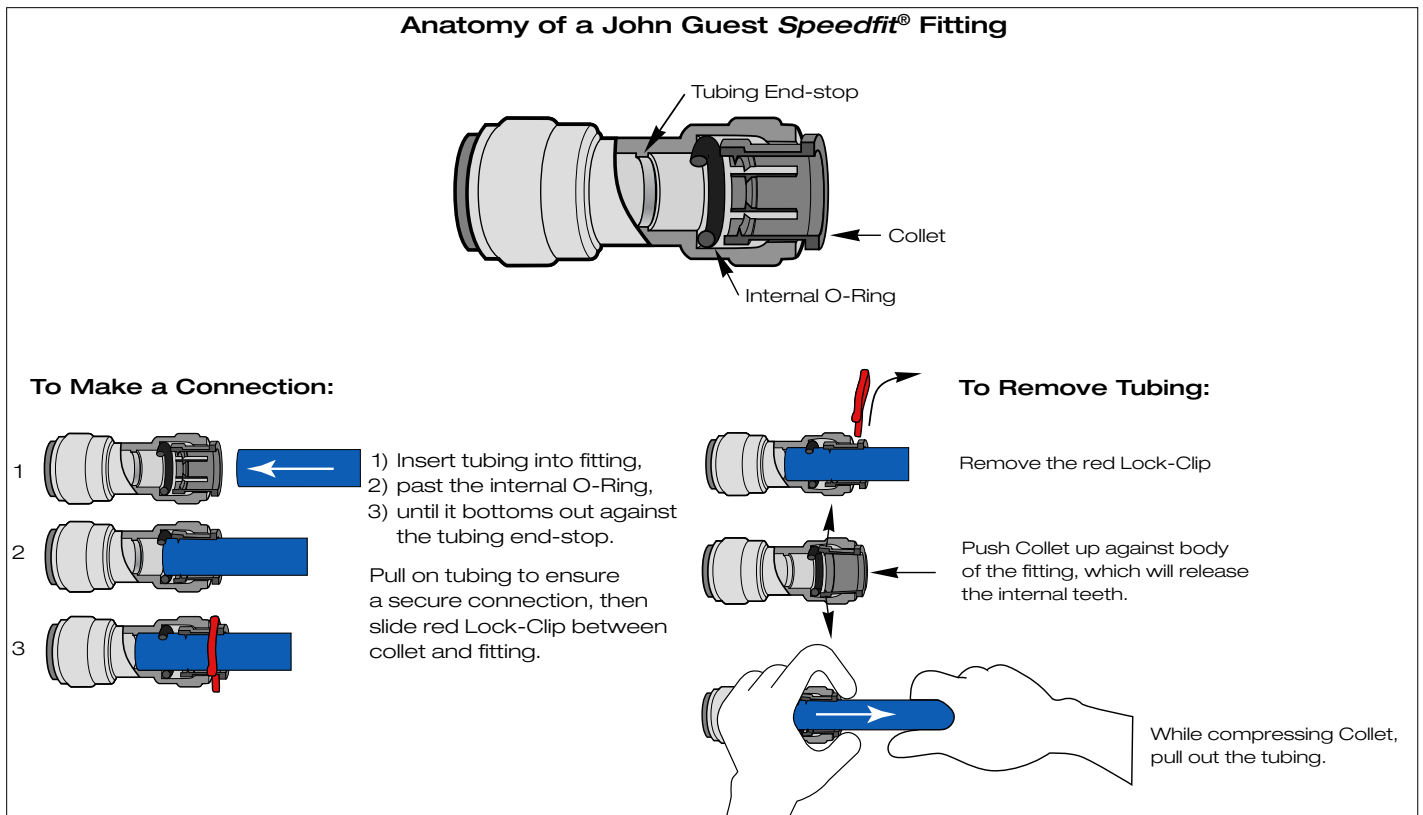

Figure 3, John Guest® Fittings
The tubing is attached to the module using a unique push-in fitting system manufactured by John Guest® (study Figure 3 on the next page). The “collet” assembly will securely hold the tubing under normal conditions. An O-ring behind the collet assures a leak free seal.
- 2) Remove the retaining clips from each end of the pre-filter, then remove the tubing itself (refer to Figure 3 on the next page). You will feel some resistance as the tubing slides away from the O-ring inside the fitting.